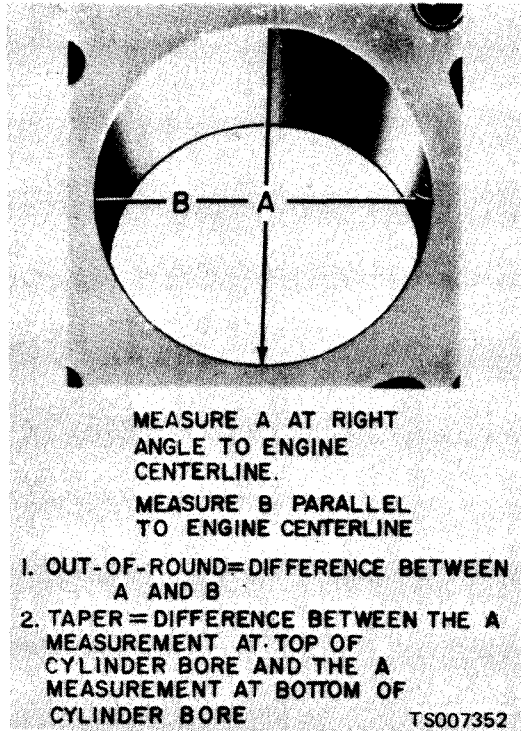

Figure 6-23. Checking Cylinder Bores.
d. Inspect the cylinder walls for scoring, roughness, or other signs of wear. Check the cylinder bore for out-of-round and taper. Measure the bore with an accurate bore gage following the instructions of the manufacturer. Measure the diameter of each cylinder bore at the top, middle and bottom with the gage placed at right angles and parallel to the centerline of the engine (fig. 6-23). Use only the measurements obtained at 90 degrees to the engine centerline when calculating the piston to cylinder bore clearance.